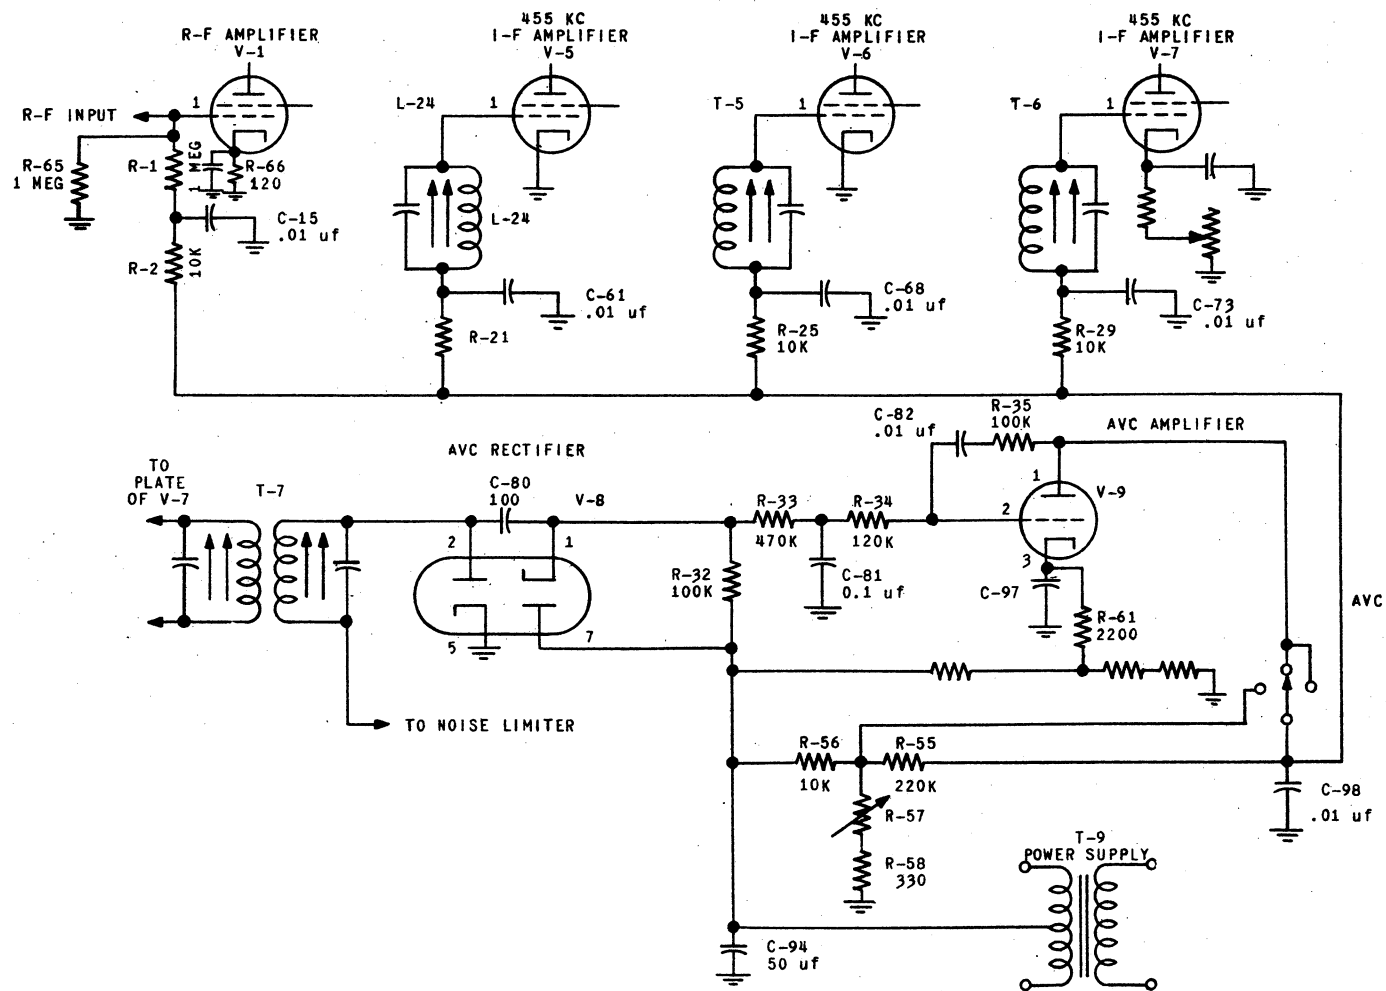

FIGURE 4-4 AVC CIRCUIT
4.5.6. AUTOMATIC VOLUME CONTROL - The problem of blocking due to strong signals or heavy static is reduced by the use of an amplified AVC system and a low impedance AVC line. Refer to figure 4-4. The second triode section of V-8 is used as an AVC rectifier to produce the control voltage for the AVC section of amplifier tube V-9. The AVC voltage applied to the grids of the controlled tubes is produced by the voltage drop across resistor R-55 when plate current flows through the AVC amplifier tube V-9. Plate voltage for V-9 is obtained from the voltage drop across resistors R-36, R-37 and R-38 which are in series with the center tap of the power transformer to ground. V-9 will not draw plate current, however, with no signal input to the receiver because of approximately 11 volts of bias placed upon its grid by the voltage drop through R-36. This bias voltage for V-9 is taken from the end of R-32 through which the rectified carrier flows in opposition to the bias voltage. Thus, when the rectified carrier becomes strong enough to overcome the bias voltage on V-9, V-9 will draw plate current and produce a voltage drop across R-55 thereby producing AVC voltage in proportion to the strength of the received signal. The bias on the grid of V-9 is high enough to produce adequate delay in the generation of AVC voltage to allow the receiver to function with full sensitivity on weak signals. Resistor R-33 and capacitor C-81 form the time constant in the AVC circuit. R-34 and C-82 are used in a degenerative circuit to prevent the AVC amplifier tube from responding to low audio frequency. The AVC is turned off by opening the plate circuit of the AVC amplifier tube V-9. Tubes controlled by the AVC bias included V-1, the RF amplifier, V-5, V-6 and V-7, the 455 kc IF amplifier tubes.